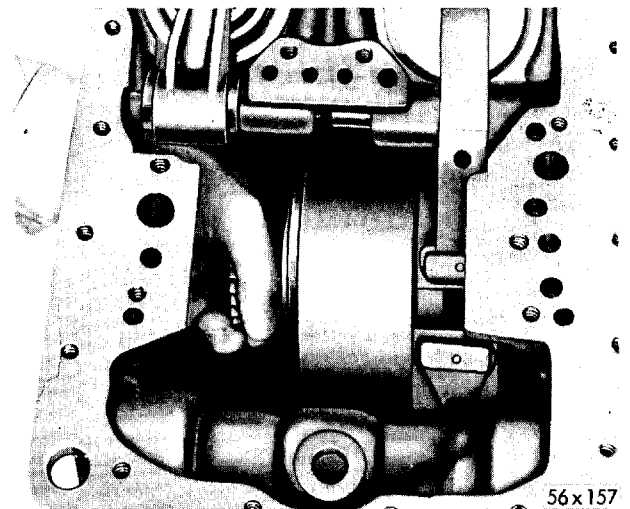

Fig. 21—Removing or Installing Direct Clutch Assembly
(4) To remove the direct clutch assembly, loosen kickdown band adjusting screw locknut and back off adjusting screw sufficiently to provide clearance for removal of clutch retainer. Remove the direct clutch assembly from the reaction shaft, as shown in Figure 21. Wrap towel around sun gear to protect hand. Be